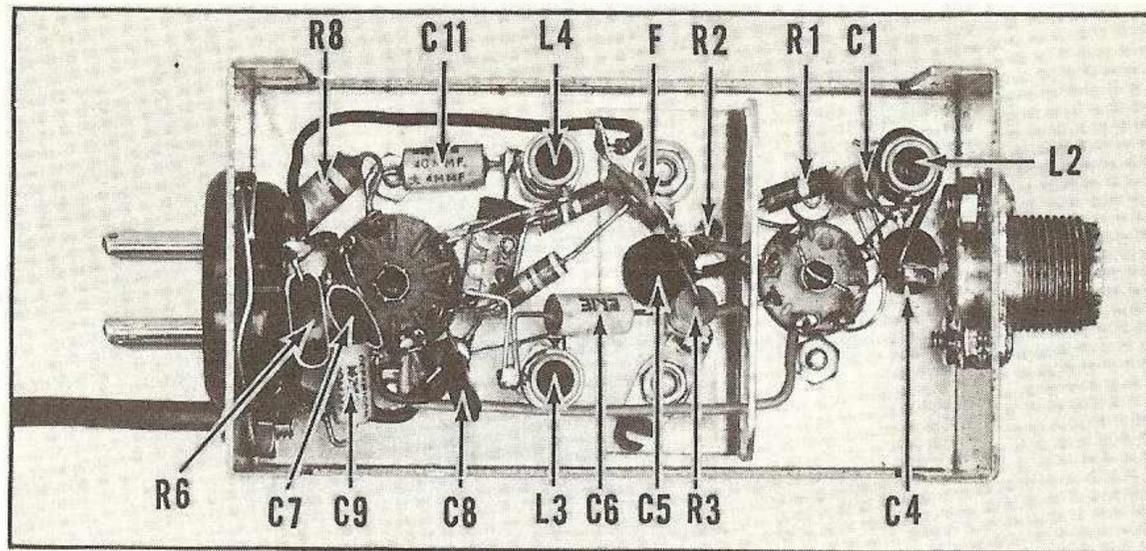

Fig. 6 Under-chassis view of converter, showing placement of major components.
- ( ) Cut a shield plate from a piece of thin brass or aluminum as shown in Figure 5. Mounting holes K and L in the shield should match holes F and G of the chassis. Position the flange of the shield as shown in Figure 6. Mount the shield with 6-32 screws.
- ( ) Wind coils (L3) and (L4) from coil table data. Mount (L3) in socket hole D, and (L4) in E. Align coil terminals towards socket (C).